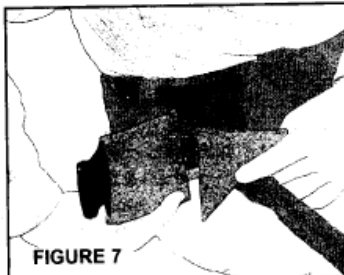

FIGURE 7
2. Unfasten the logo patches from the wall of the belt and attach the triangle loop fastener underneath as shown in Figure 7. (Orient the point of the arrow to the upper rear corner of each logo patch as illustrated.)